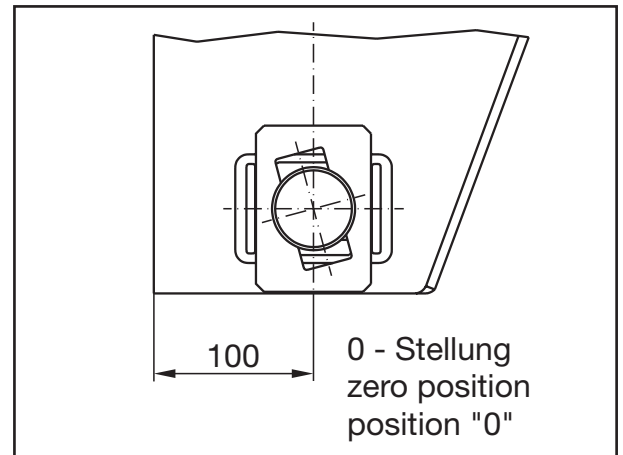

Fig. 8
- [2] To correct, slacken the lock nuts on the spring pivot bolt slightly and uniformly slide the connecting linkage on both sides, either upwards on the tracking-in direction, upwards or downwards with light hammer blows (Fig. 8 - 10).